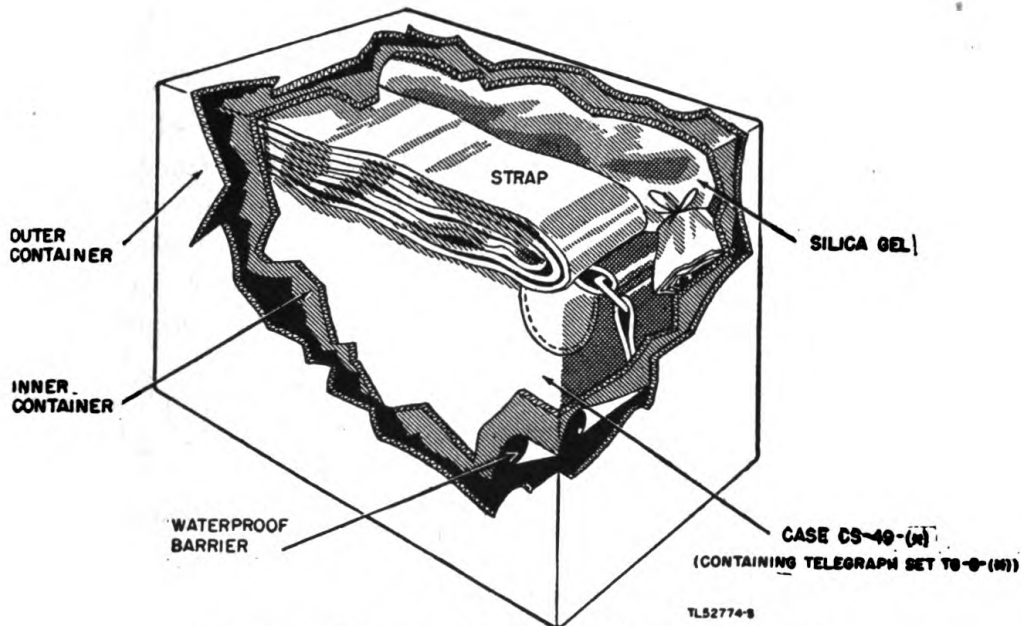
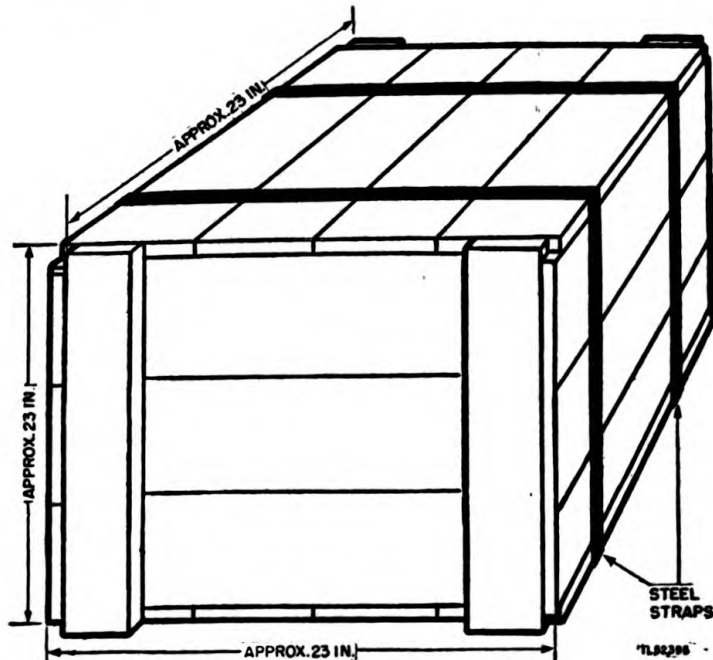

Figure 7. Telegraph Set TG-5-B, packed for export.
Figure 8. Packing case.
d. The fiberboard container is then closed, sealed, and wrapped in a moistureproof and vaporproof paper. (See fig. 7.)
f. If more than one telegraph set is to be shipped at one time, six sets are placed in a nailed wooden crate approximately 23 inches wide, 23 inches deep, and 23 inches long. (See fig. 8.)
Telegraph Sets TG-5-(*) are packed in a nailed wooden box as shown in figure 8. Each wooden box contains six telegraph sets which are individually packed in fiberboard packing boxes. (See fig. 7.) To unpack the telegraph sets follow the procedure outlined below.